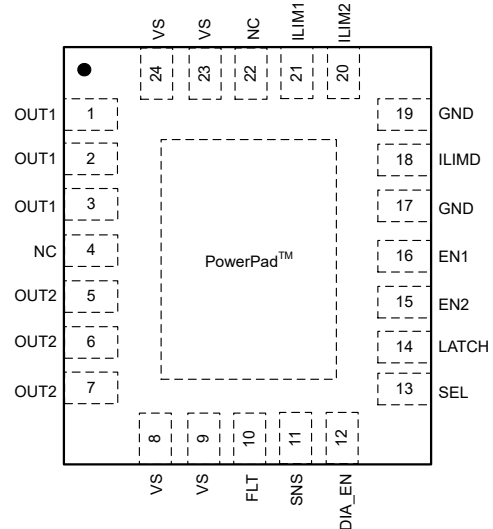

图 6-2. RHF Package, 24-Pin QFN (Top View)
• Deleted Preview only designation from 图 6-2 .....	4
• Corrected typographic error in Pin 10 label for 图 6-2 .....	4